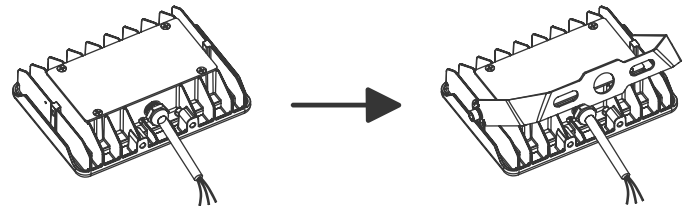

Fig. 3.1
2. Connect yoke with bolts (Fig. 3.1).